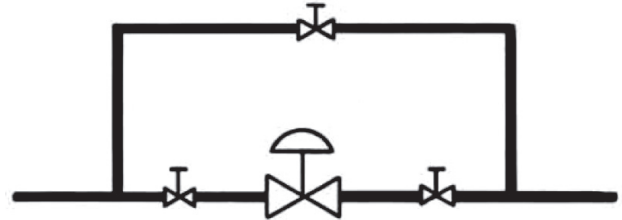

Figure 2
3.2 To allow for in-line inspection, maintenance and removal of the valve without service interruption, provide a manually operated stop valve on each side of the 10000 Series valve with a manually operated throttling valve mounted in the bypass line (See Figure 2).